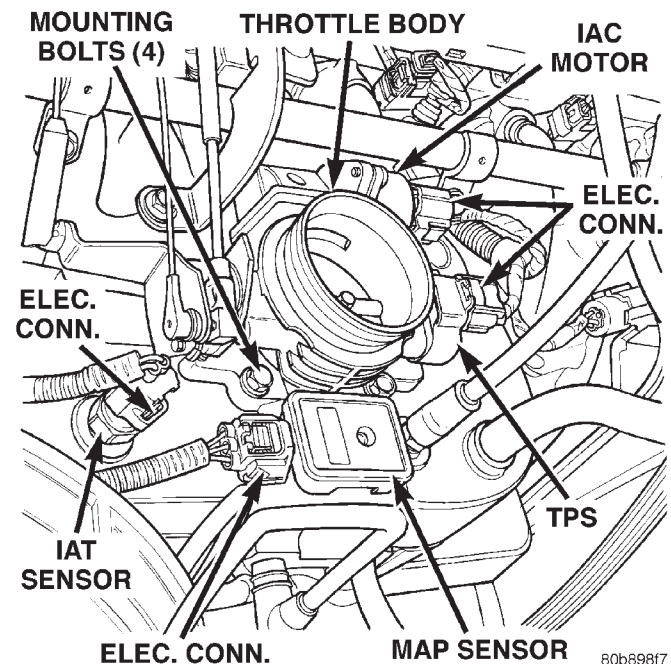

Fig. 24 TPS Electrical Connector—4.0L Engine
- (1) Disconnect TPS electrical connector (Fig. 24).
- (1) Remove air duct and air resonator box at throttle body.
- (2) Disconnect electrical connector from IAC motor (Fig. 24).
The MAP sensor is mounted to the side of the throttle body (Fig. 24). An L-shaped rubber fitting is used to connect the MAP sensor to throttle body (Fig. 30).